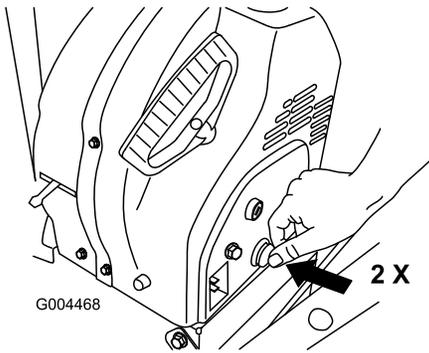

Figure 22
- Firmly push in the primer 2 times with your thumb, holding the primer in for a second before releasing it each time (Figure 22).